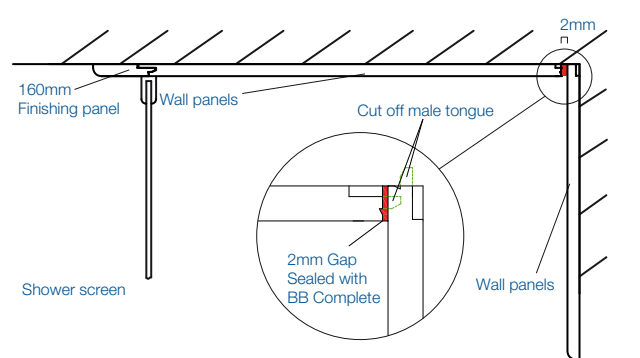

Fig B2 Corner and finishing panel details
6. Carefully lift the panel in place onto 5mm spacers to hold the panel above the floor in readiness for back filling with BB Complete. Press back firmly all over ensuring the necessary 2mm gap for BB Complete where panels meet as shown in fig B2.